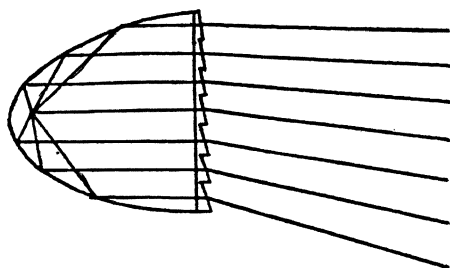

Fig. 2. Rays from Headlamp Are Tilted by Means of Prismatic Lenses
**Lamp Reflectors.** A cross-section view of a parabolic lamp reflector fitted with a prismatic lens is shown in Fig. 2. There is a focal point near the rear of the reflector from which rays from the bulb are picked up by the polished surface of the reflector and directed in parallel lines forward to and through the lens. The point at which the source of light will cause all of the reflected beams to be reflected directly ahead is called the "focal point" of the reflector. Manufacturers of lamp bulbs work to very close limits in order that